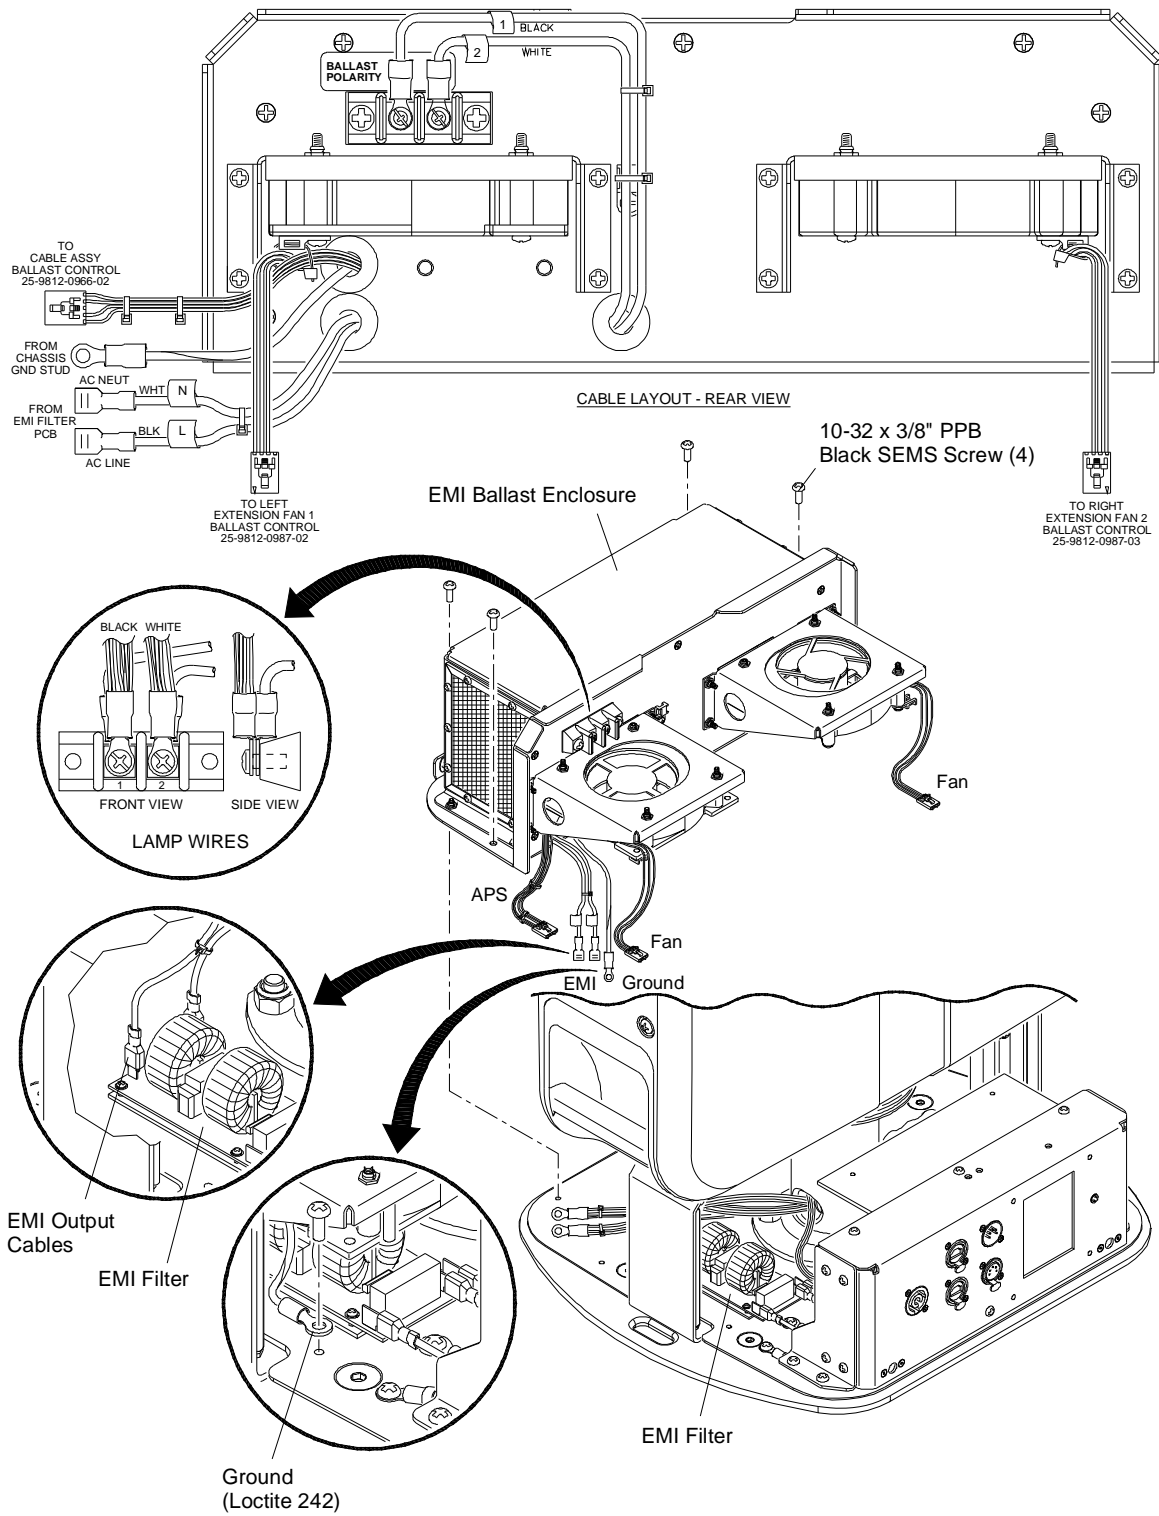

Figure 3-34: Removing EMI Ballast Enclosure
- Step 3. Disconnect the following wiring (**Figure 3-34**):
- Step 9. Replace EMI Ballast Enclosure by doing steps in reverse. *Use Loctite 242 when re-installing ground wire as shown in **Figure 3-34**.*